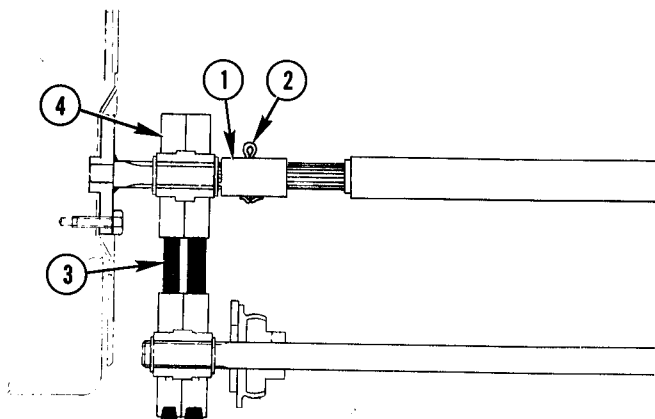

Fig. 31 — Traction Drive Belt Replacement
2. Remove cotter pin, No. 2, Fig. 31. Slide coupling, No. 1, rearward and remove belts, No. 3, from upper pulley, No. 4.